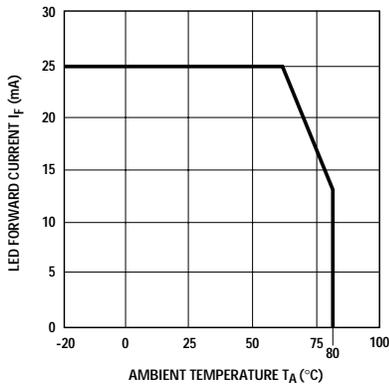

Figure 9. LED forward current vs. ambient temperature.
- Derate absolute maximum ratings with ambient temperatures as shown in Figures 9, 10, and 11.